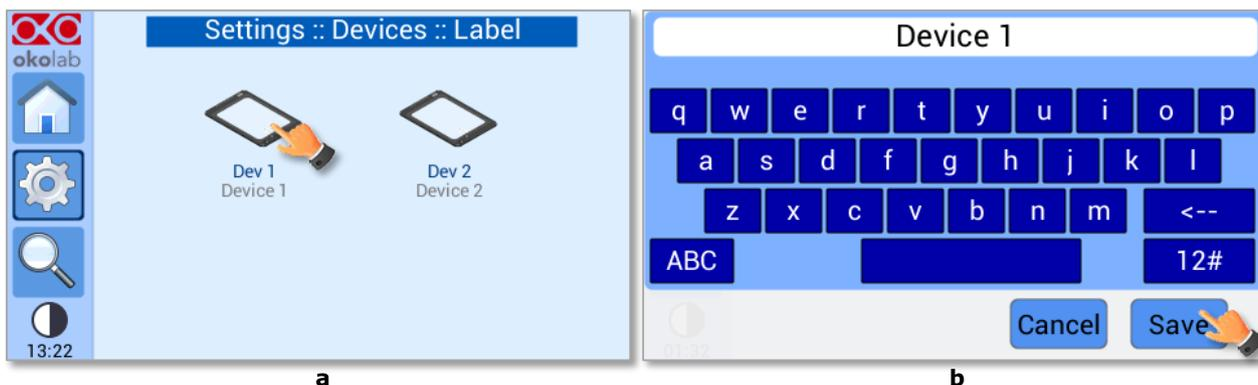

Figure 28. Device Label (a) Selection of the device; (b) Input of the label
- 2 Press on Dev1 or Dev2 icon in the subpage that will open as Figure 28(a).
- 3 Enter the desired label by using the keyboard that will appear, as shown in Figure 28(b). Press *save* or *cancel* to undo.